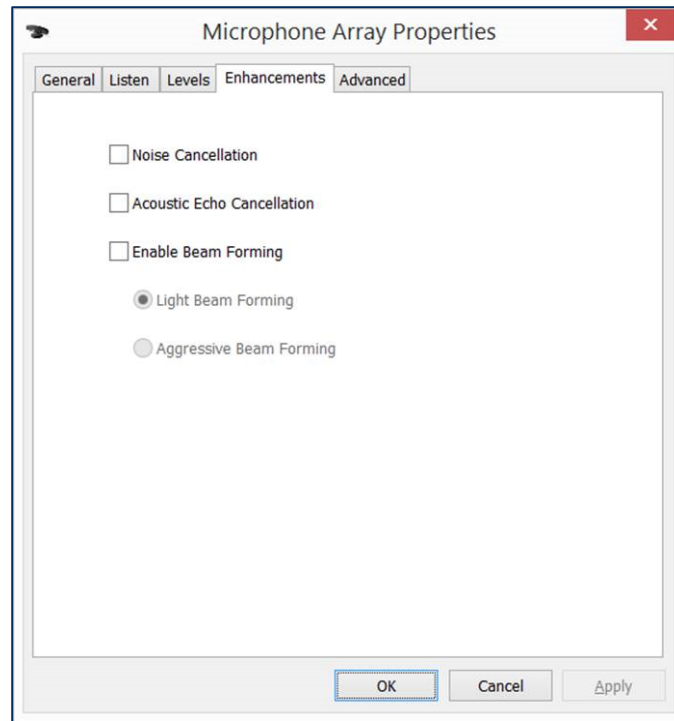

Figure 3-3 Enhancements Turned Off
- 16) Make sure all checkboxes in the **Enhancements** tab are turned off. See **Figure 3-3** for an example.